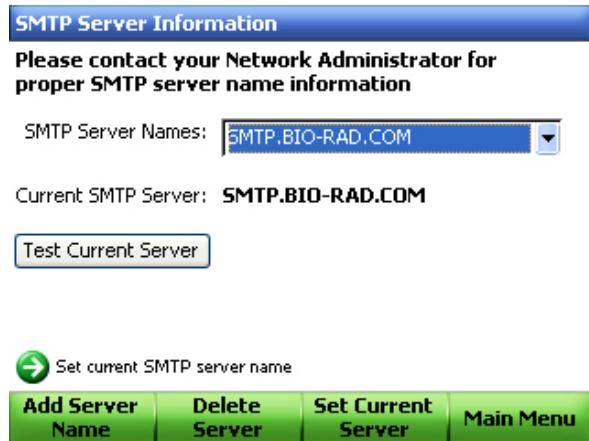

Figure 56. Test the current server.
12. Use the arrow keys to select the **Test Current Server** button and click the **Enter** navigation button (Figure 56).